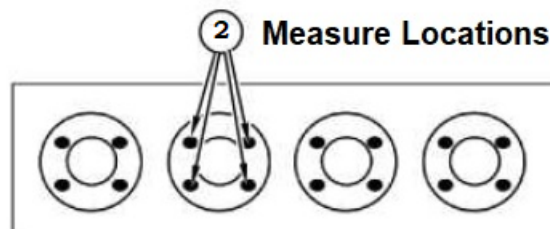

Figure 2. Measurement Locations
With a stationary dial indicator measure the piston head protrusion from the crankcase cylinder face at 4 spots per each piston using the dial gauge as shown in Figure 2.
(2) Measuring Point (Fig. 2)